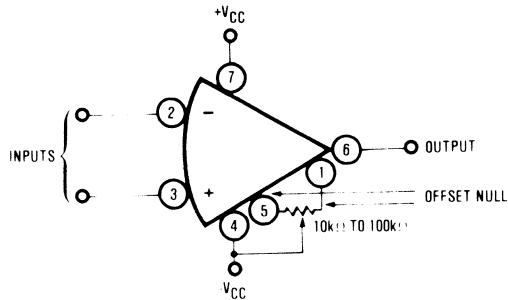

FIGURE 4. Offset Null Circuit.
3.3.2 Offset null. The amplifier is capable of being nulled to zero offset voltage using the circuit in Figure 4. If nulling is unnecessary for the application, delete the potentiometer and make no connections.